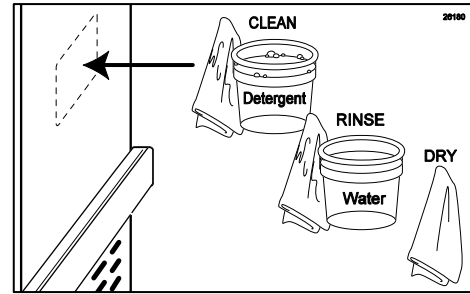

Figure 147
- Clean, rinse and dry thoroughly the area on which the Bracket will be mounted using detergent water, clean water, and single service towels. (See Figure 147.)